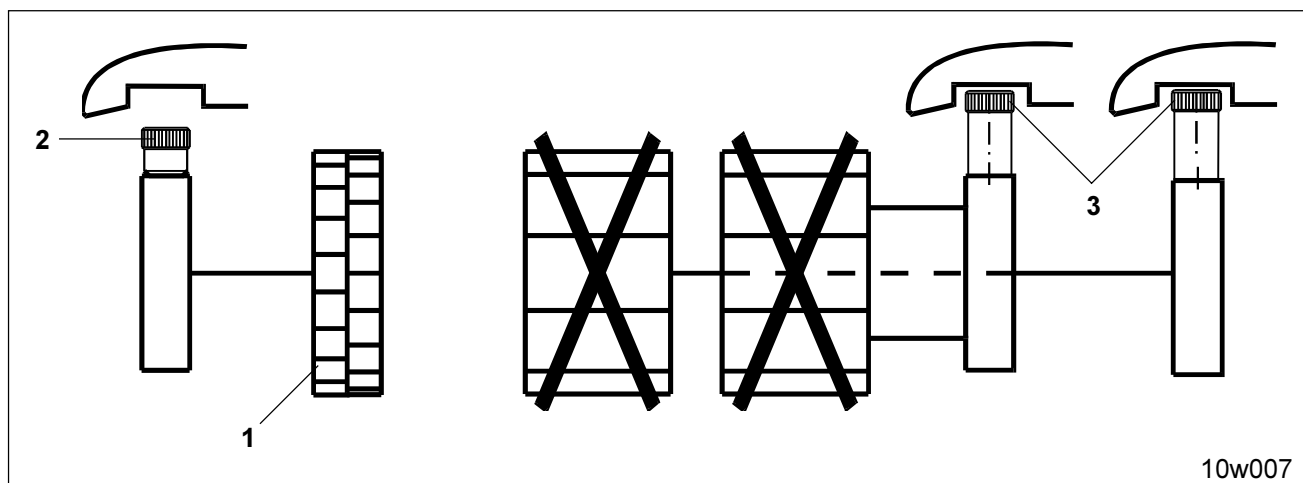

Fig. 15.6
For sowing by the fine seed metering wheel (Fig. 15.6/1)
- Drive in knurled bolt (Fig. 15.6/2) of the fine seed metering wheel
- Drive our knurled bolt (Fig. 15.6/3) of both main metering wheels.